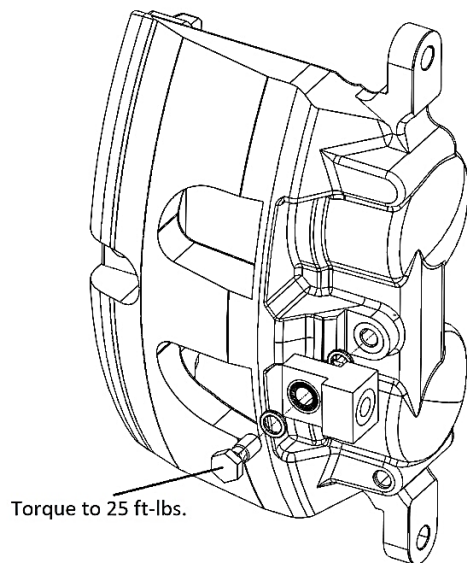

Figure 4: Installation of Relocation Block
4. Install the provided banjo block and crush washers to the caliper using retained banjo bolt from Step 3, See Figure 4– **Torque banjo bolt to 25 ft-lbs.**